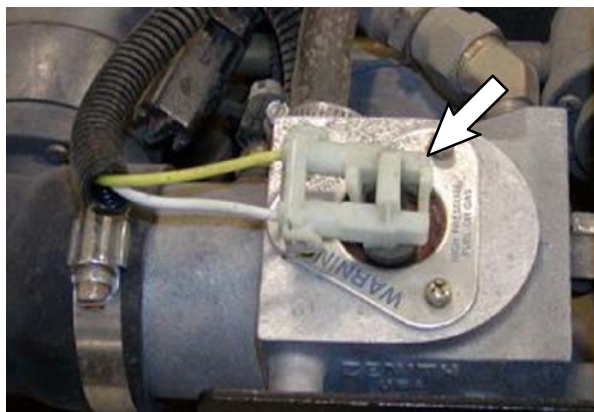

FIG. 1
4. Disconnect the injector harness connector from the throttle housing. Refer to Fig. 1.
16. Reconnect the injector harness connector to the throttle housing. Refer to Fig. 1.